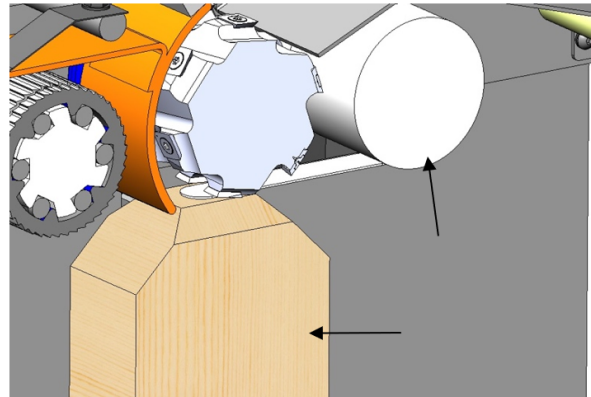
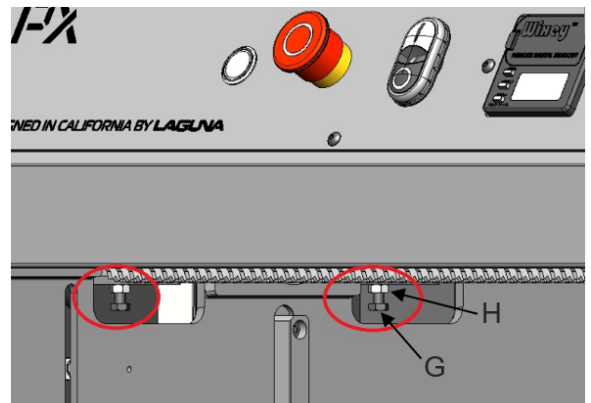

FIGURE 20: OUTFEED ROLLER ADJUSTMENT
FIGURE 21: OUTFEED ROLLER ADJUSTMENT
4. (Fig.20, E) under the left side of outfeed roller (Fig. 20, F). The top of wood gauge should just contact the outfeed roller. If it doesn't, loosen jam nut (Fig. 21, H) and turn the adjusting screw (Fig. 21, G) to raise, or lower the out-feed roller until it contacts wood gauge.